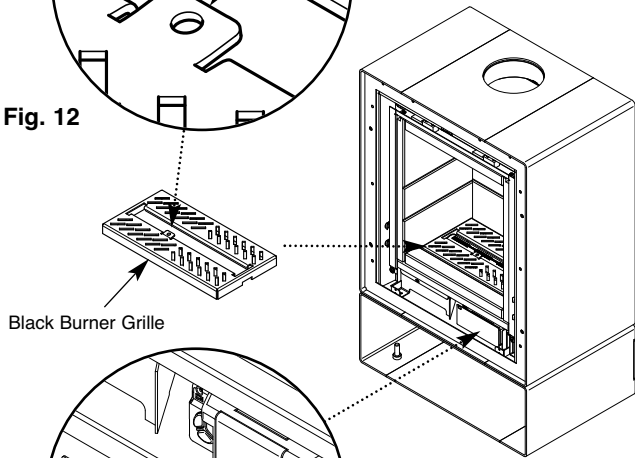

Fig. 13
8. Fit the controls cover plate over the Fire Control ensuring that the indicator light can be seen through the hole in the plate (Fig. 13).